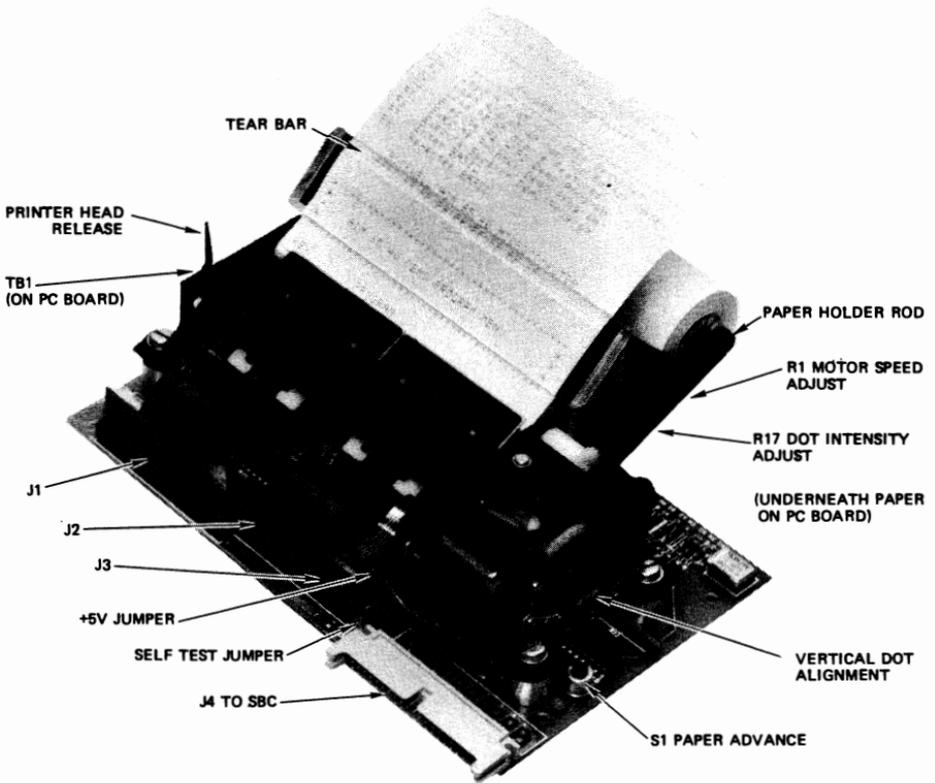

Figure 2-2. AIM 65/40 Printer Detail
- (1) Remove the tear bar by lifting it straight up (see Figure 2-2).
- (2) Take the roll of paper from the shipping container and separate the start of the printer paper from the roll.
- (3) Tear or cut the paper from each edge at about a 45° angle to form a pointed "V" behind any adhesive or foreign material.
- (4) Slide the roll of paper onto the paper holder rod and install the rod into the supporting slots. The paper should feed from under the roll toward the printer.
- (5) Pull the printer head release lever toward the keyboard edge of the SBC module to release the printer thermal head from the platen.
- (6) Insert the paper into the back of the printer under the platen until it can be grasped from above. Pull the paper up slightly until the entire leading edge is past the tear bar edge.